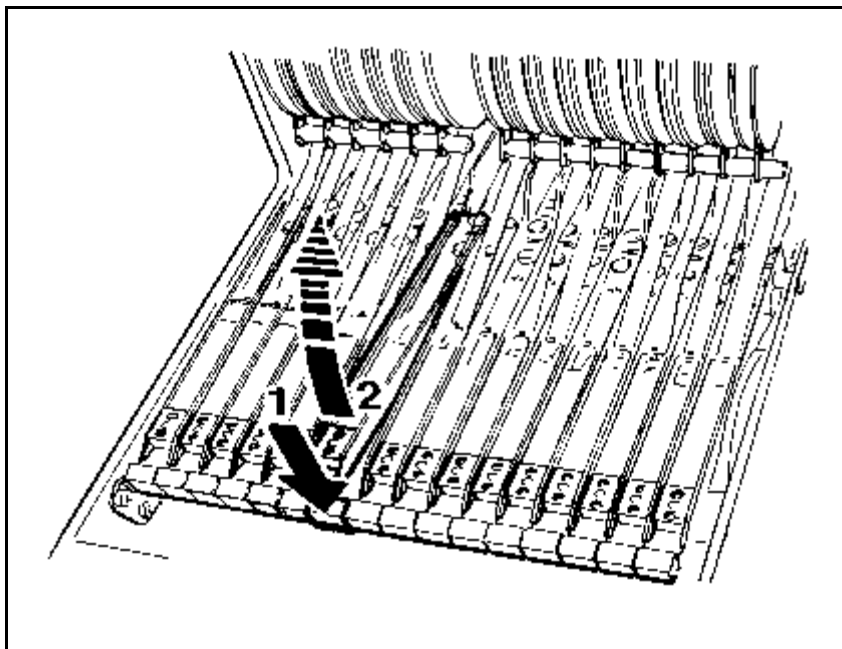
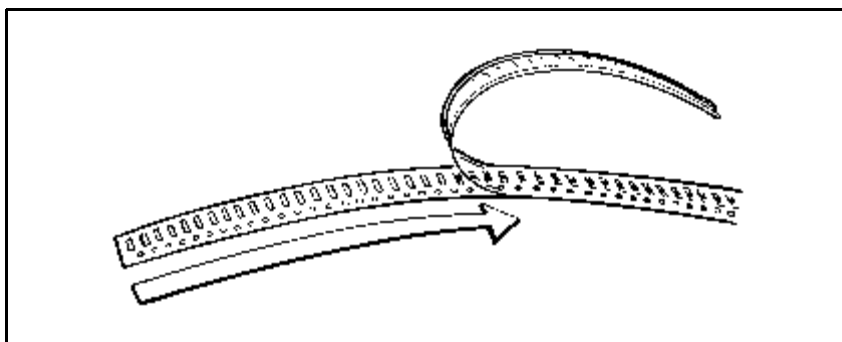

Figure 4-29. Lifting up the pick-up rail
Figure 4-30. Stripping the cover tape
4. Press the pick-up rail toggle ('1' in Figure 4-29).
5. Lift up the pick-up rail (2).
6. Strip off the cover tape 10cm approximately from the new component tape (Figure 4-30) without dropping the uncovered components into the magazine.